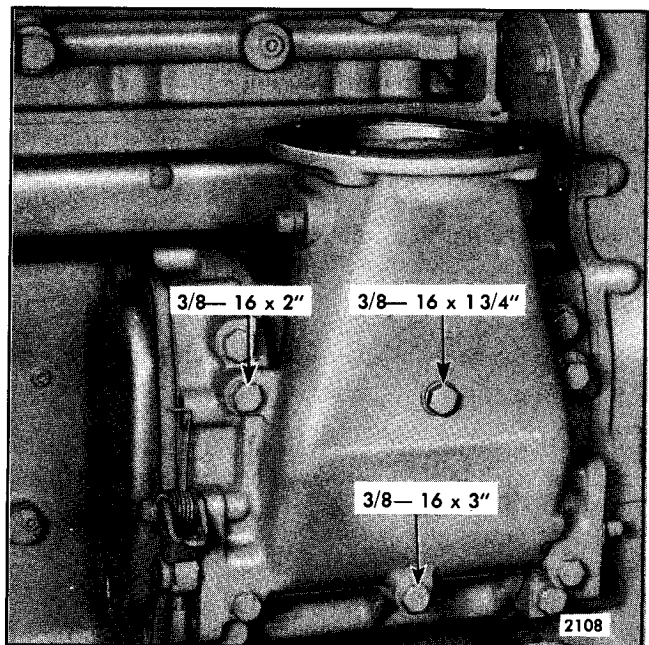

Fig. 3 - Location of Air Shutdown Housing Mounting Bolts (In-Line Engines)
a. Install and finger tighten the six attaching bolts (Fig. 3).